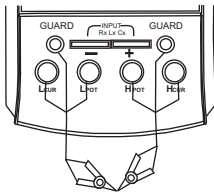

Figure 7
- b) When using $L_{CUR}/L_{POT}/H_{POT}/H_{CUR}$ terminals insert the black and red testing lines with alligator clip into the "L_{CUR}", "L_{POT}", terminal and "H_{CUR}", "H_{POT}". terminal respectively. Connect the mouth of clips (shown in figure 7).